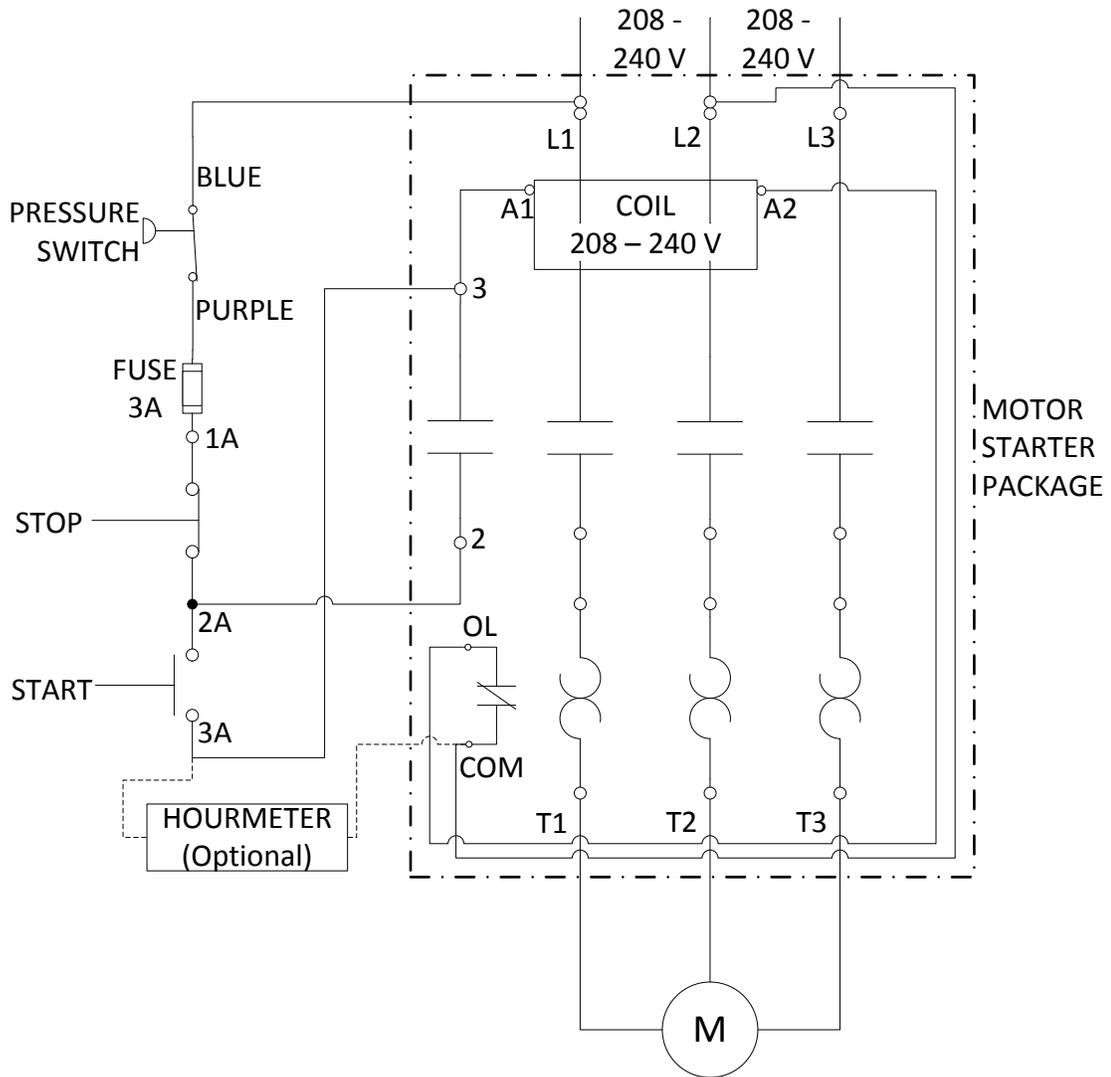

FIGURE 2-2 Electrical Schematic for Starter P/N 776-67-1
2.4.1 ELECTRIC POWER. The standard electric drive uses a five horsepower, (three phase electric motor that can be wired for 240, 380, or 460 volts.) motor controller is provided and must be wired to a source of power according to the Electrical Schematic, Figure 2-2, 2-2a, or 2-2c. This must be done by a competent electrician in conformance with local and federal codes.